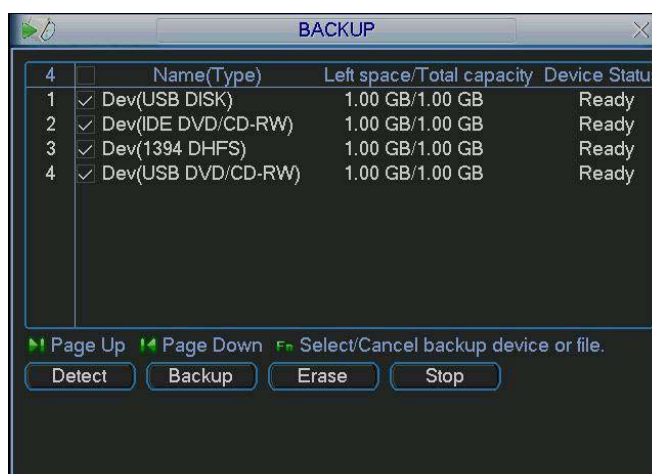

Figure 4-25
- PTZ activation: Here you can set PTZ movement when alarm occurs. Such as go to preset, tour& pattern when there is an alarm. Click “select” button, you can see an interface is shown as in Figure 4-25.
Click backup button, you can see an interface is shown as in Figure 4-25. Here is for you to view devices information.